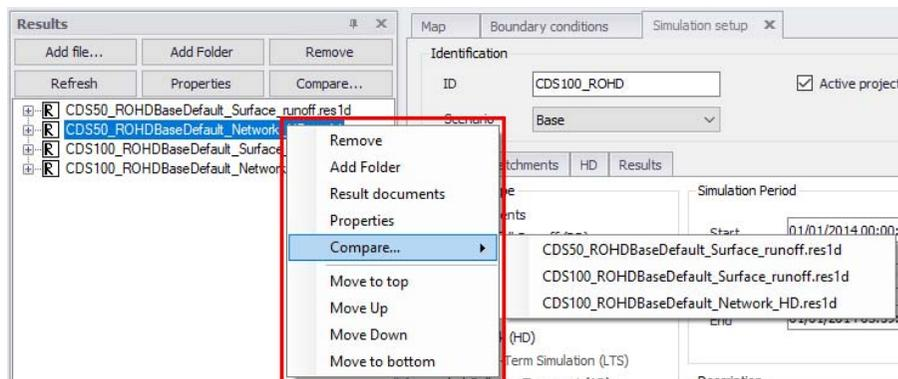

Figure 19.84 Compare results via the local context menu
- Alternatively, launch a file comparison via the results manager local context menu by right-clicking on a result file layer (Figure 19.84).